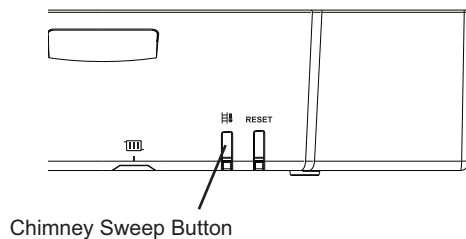

Fig. 53
1. The maximum rate CO₂ setting can only be reached via the minimum rate. Press the Chimney Sweep (Fig. 53) button for approximately 3 seconds. The status signal for the Chimney Sweep button is orange and flashes green briefly to show that the minimum rate is selected.